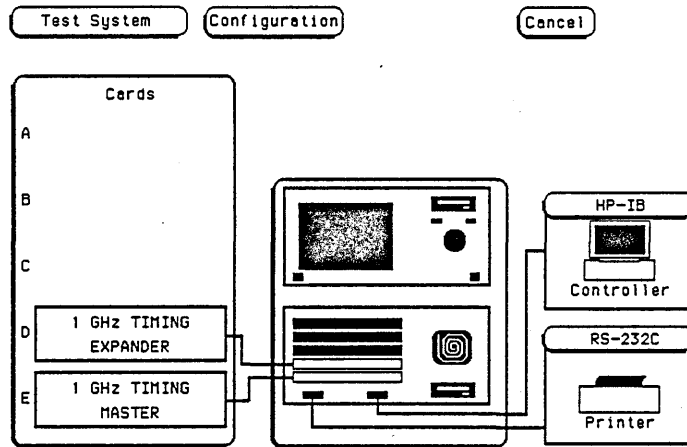

Figure 6-6. Test System Screen
4. From test screen in figure 6-6, touch Test System, then touch 1 GHz Timing. (If multiple 1 GHz Timing modules, select the one to be tested)